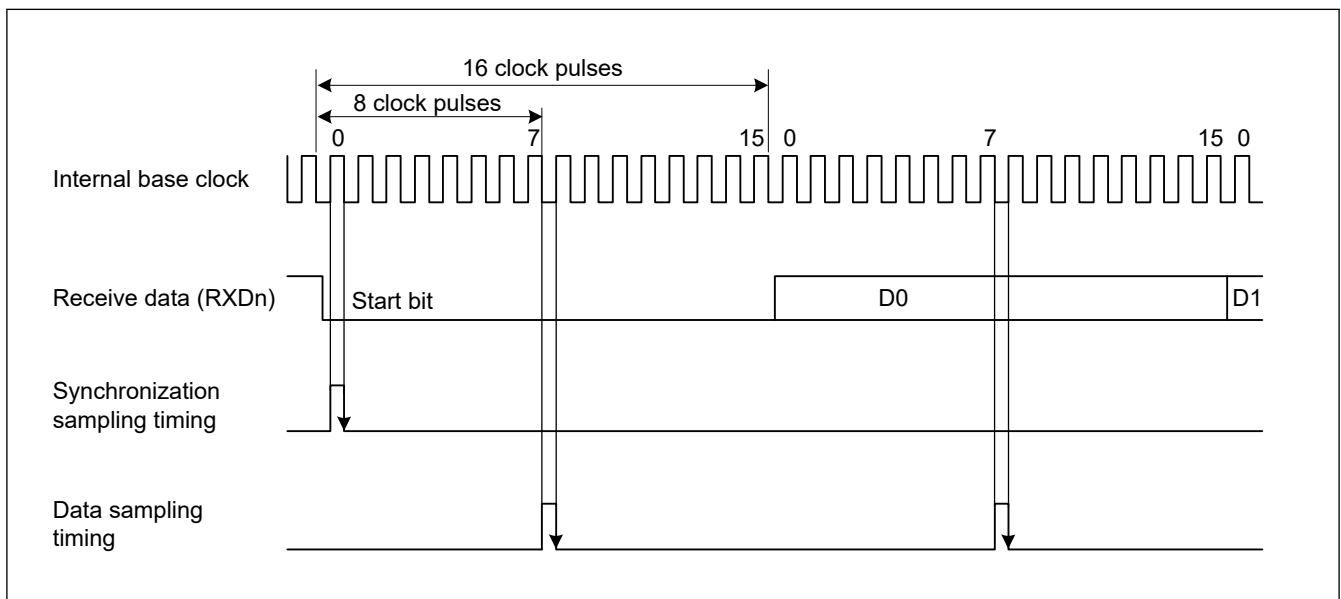

Figure 27.4 Receive data sampling timing in asynchronous mode
Because receive data is sampled on the rising edge of the 8th pulse\*1 of the base clock, data is latched at the middle of each bit (when sampling timing does not adjust (SPTR.ASEN = 0)), as shown in Figure 27.4 The reception margin in asynchronous mode is determined by the following formula (1):
The determination condition of a start bit is that Low beyond half bit length continues. It is same as the sampling timing. In Figure 27.4, Low period should be kept over 8-cycles to detect a start bit. If Low period does not keep over 8-cycles, the IP judges this as a noise. So, the IP does not start reception and wait start bit.